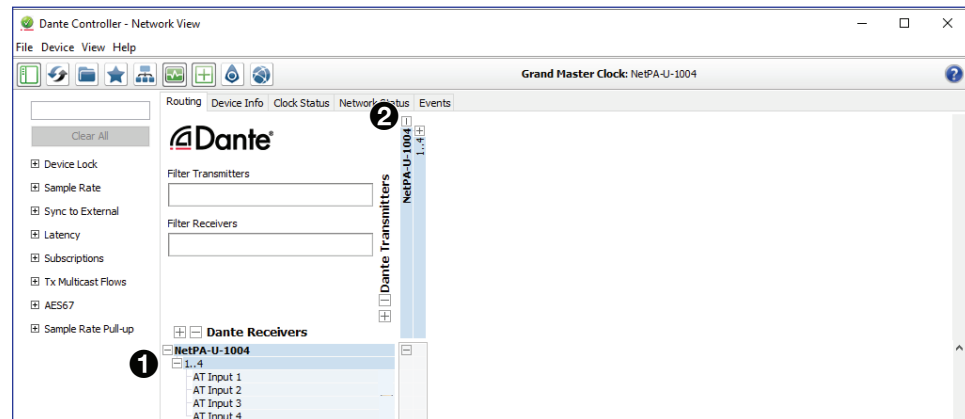

Figure 86. Expanded Device View — Input and Output Names
To view the receiver or transmitter channels in Dante Controller, click the plus (+) sign next to the receiver or transmitter device name to expand it. The plus (+) sign becomes a minus (-) sign when the device is expanded (see figure 86, ①).